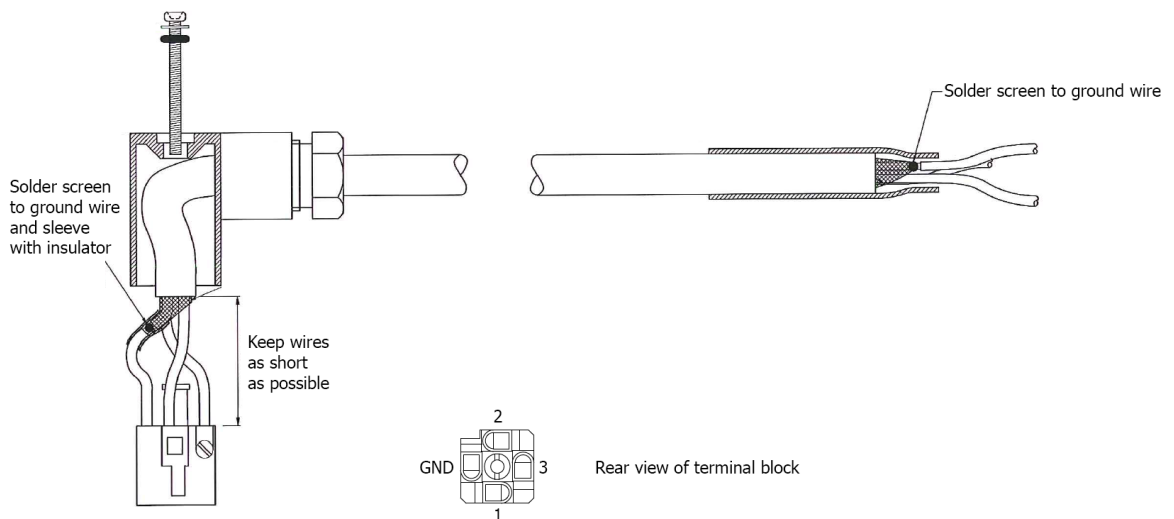

Figure 5 Cable Assembly
4. Cable should be assembled according to Figure 5.